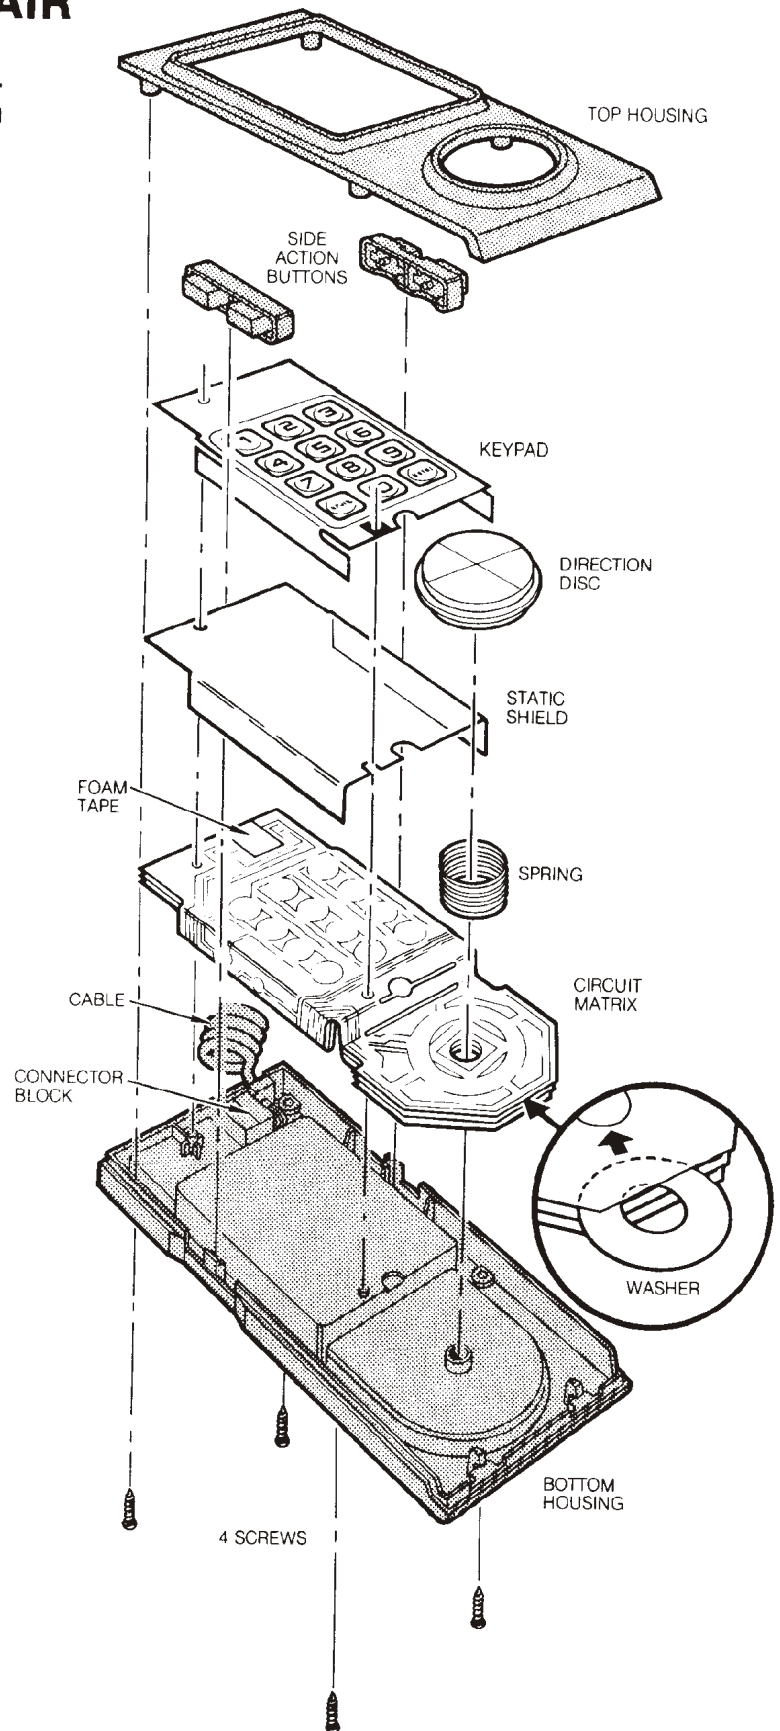
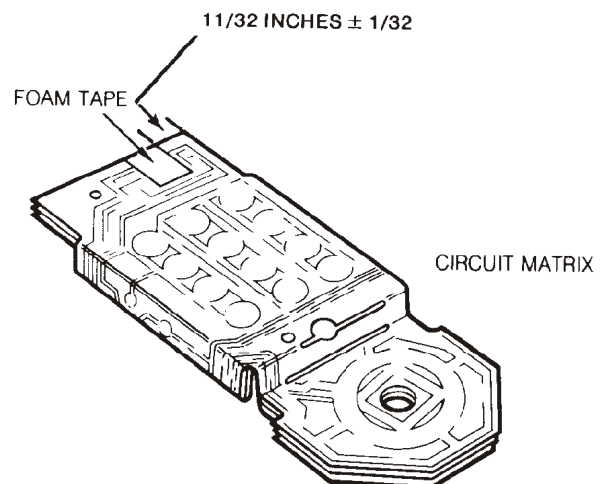

Figure 8
Figure 13 Foam Tape Replacement
(2) Carefully lift the top off and set it aside. Hold the number keypad and the Gold Directional Disc in place with one hand.
(3) Remove the Gold Directional Disc and Spring.
(4) Remove the Action Buttons from both sides.
(5) Remove the static shield and the circuit matrix from the lower housing. (See Figure 8.)
Apply foam tape (2609-6159) to circuit matrix as required. Refer to Figure 13. Install the circuit matrix as shown in Figure 8 and make sure it fits snugly over the top and bottom posts.
Foam tape is to be applied directly to the folded circuit matrix. Tape is to be captured between matrix and domed legend, and pressed to secure its position. Refer to Figure 13.
**(3)** Install the static shield over the folded circuit matrix, making sure the posts go through both sets of holes (shield and matrix). Refer to Figure 8. Hold the matrix and shield in place with fingers.
**(5)** Check that the components are correctly installed. Place the washer under the top layers of the circuit matrix and over the directional disc post as shown in Figure 8.
**(7)** Mount the spring and Directional Disc. Refer to Figure 8.